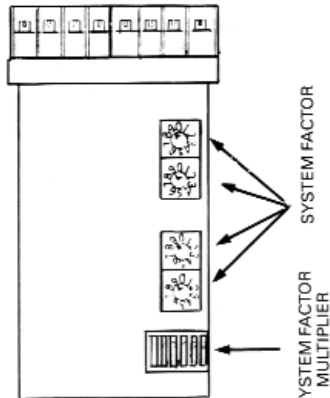

Figure 3-2. Controls and Adjustments
3.4 CONTROLS AND ADJUSTMENTS (See Figure3-2.)